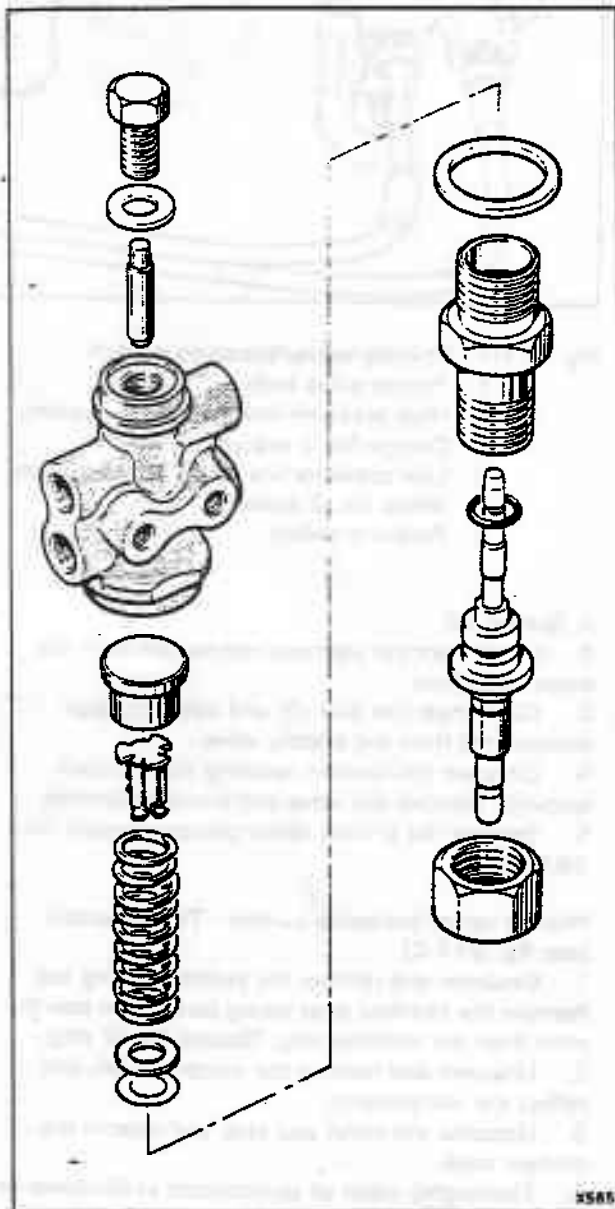

Fig. G11-2 Priority valve/pressure switch
3. Disconnect the inlet (2) and outlet (2) pipe connections from the priority valve.
**Priority valve/pressure switch - To dismantle (see fig. G11-2)**
**Priority valve/pressure switch - To assemble (see fig. G11-2)**